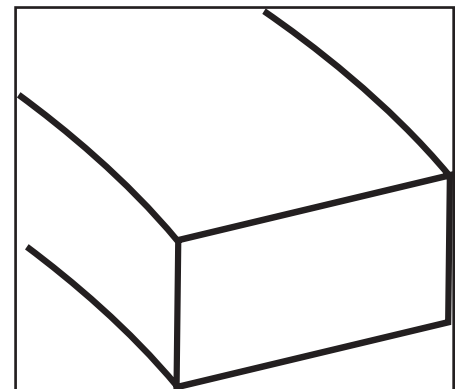

Figure 3
- 8- If ring has no dots and no bevel, it can go either way. **See Figure 3** below.